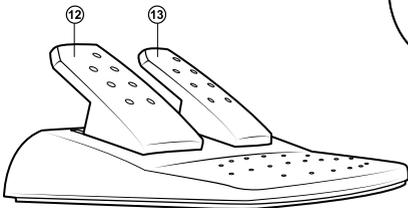

Fig. 3. Foot pedal unit
- Connect pedal unit to the device (Fig. 3) via cable of the pedal unit to RJ-11 jack ⑩, then connect USB cable ⑨ of the device to the USB port of the computer.